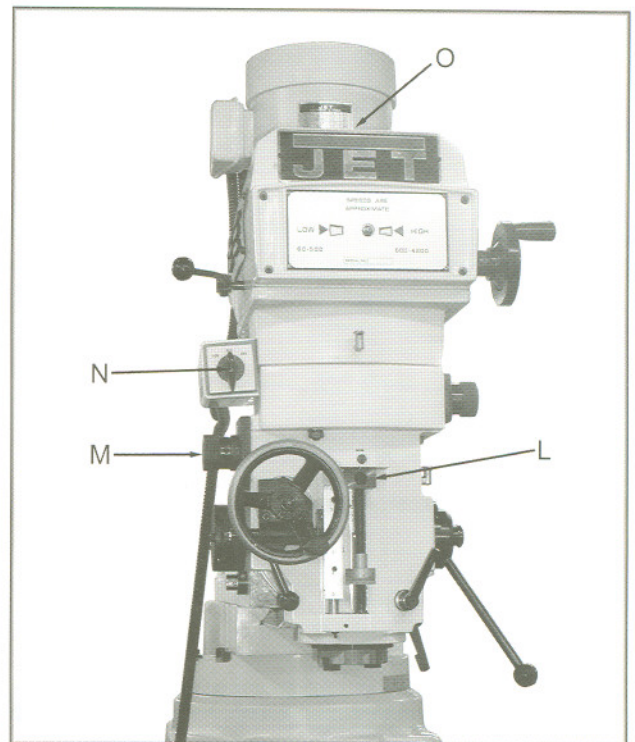

Fig. 6
L. **Quill Stop** (L, Fig. 6) - located on the front of head. Used to disengage the automatic feed in either direction as well as the setting point for working to a given depth.
M. **Quill Feed Speed Selector** (M, Fig. 6) - located on the left side of the head. Turn the knob and indicate pointer towards one of three feed speeds (0.0015", 0.003", and 0.006") per spindle revolution. Feed is more readily engaged when spindle is turning.
N. **Reversing Switch** (N, Fig. 6) - located on the left side of the head. Switches rotation of spindle.
O. **Drawbar** (O, Fig. 6) - located on the top of the head. Used to secure the tool holder in the taper. Use the spindle brake while tightening the drawbar.